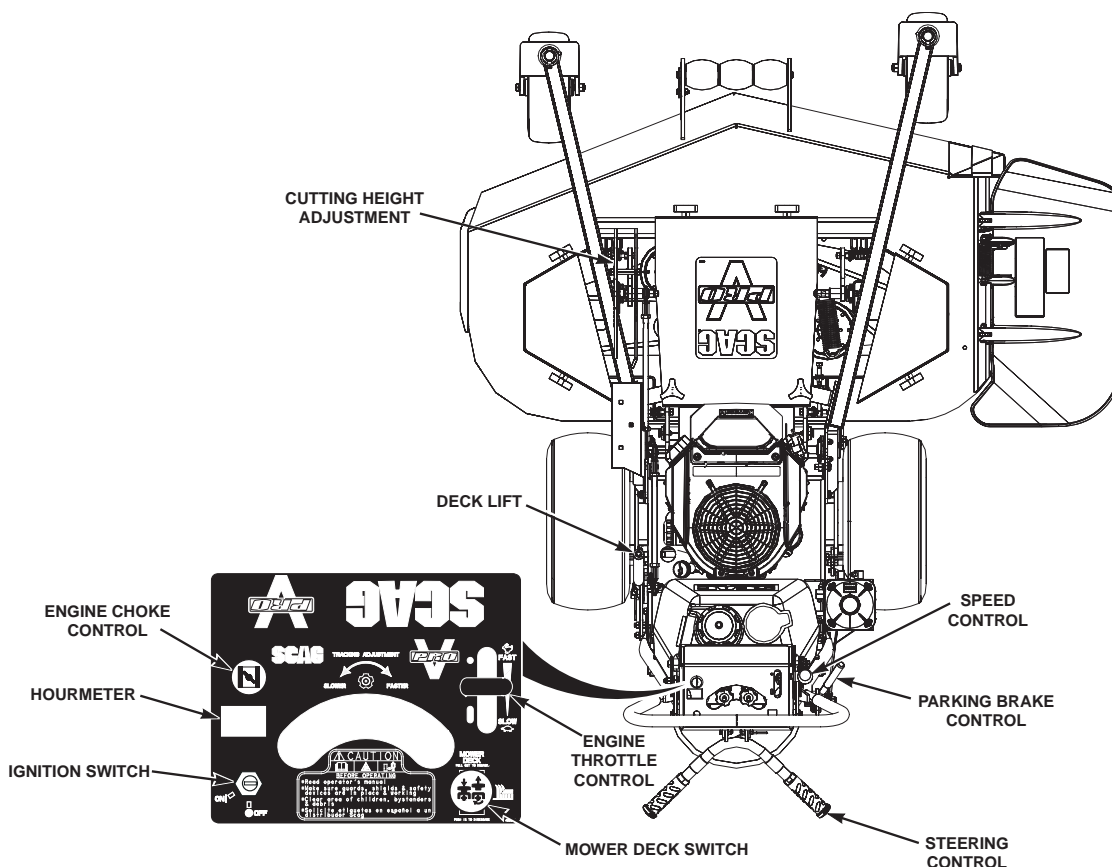

Figure 4-1 Controls
1. Ignition Switch (Figure 4-1). The ignition switch is used to start the engine. Manual start engines has two positions; OFF and ON. Electric Start engines have three positions; OFF, ON, and START.
2. Mower Deck Switch (Figure 4-1). Used to engage and disengage the mower drive system. Pulling up on the switch will engage the deck drive. Pushing down on the switch will disengage the deck drive.
3. Engine Choke Control (Figure 4-1). Used to start a cold engine.
4. Engine Throttle Control (Figure 4-1). Used to control the engine speed. Pushing the lever forward increases engine speed. Pulling the lever back decreases engine speed. Full back position is the IDLE position. Full forward is the cutting position.
5. Hourmeter (Figure 4-1). Indicates the number of hours the engine has been operated. It operates whenever the engine is running. Has preset maintenance reminders for engine and hydraulic system oil changes. Will start flashing scheduled maintenance 2 hours before preset time and continue flashing until 2 hours after. Automatically resets.
6. **Steering Control (Figure 4-1).** Used to control the mower's travel direction. See Section 4.5 for further details regarding the mower's travel controls.
7. **Speed Control (Figure 4-1).** Used to set the mower's maximum FORWARD speed. See Section 4.5 for further details regarding the mower's travel controls.
8. **Parking Brake Control (Figure 4-1).** Used to engage and disengage the parking brakes. Pull the lever back to engage the parking brakes. Push the lever forward to disengage the parking brakes.
9. **Deck Lift Lever (Figure 4-1).** Used to raise and lower the cutter deck.
10. **Cutting Height Adjustment (Figure 4-1).** Used to set the cutter deck at the desired cutting height.